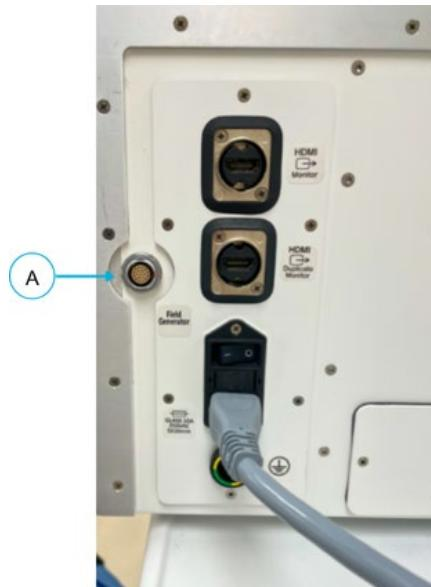

Figure 10-25: Field Generator to Generator Connection
6. Plug the **Field Generator cable** into the port **(A)** labeled ‘Field Generator’ on the back of the Generator (Figure 10-25).